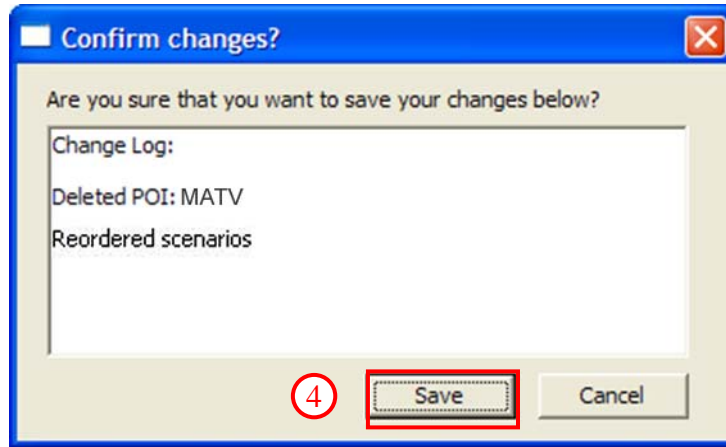

Figure 74. Scenario Management - Confirm Delete Dialog
4. A prompt is displayed detailing the addition/changes (Figure 74). Click the [SAVE] button to confirm the changes.